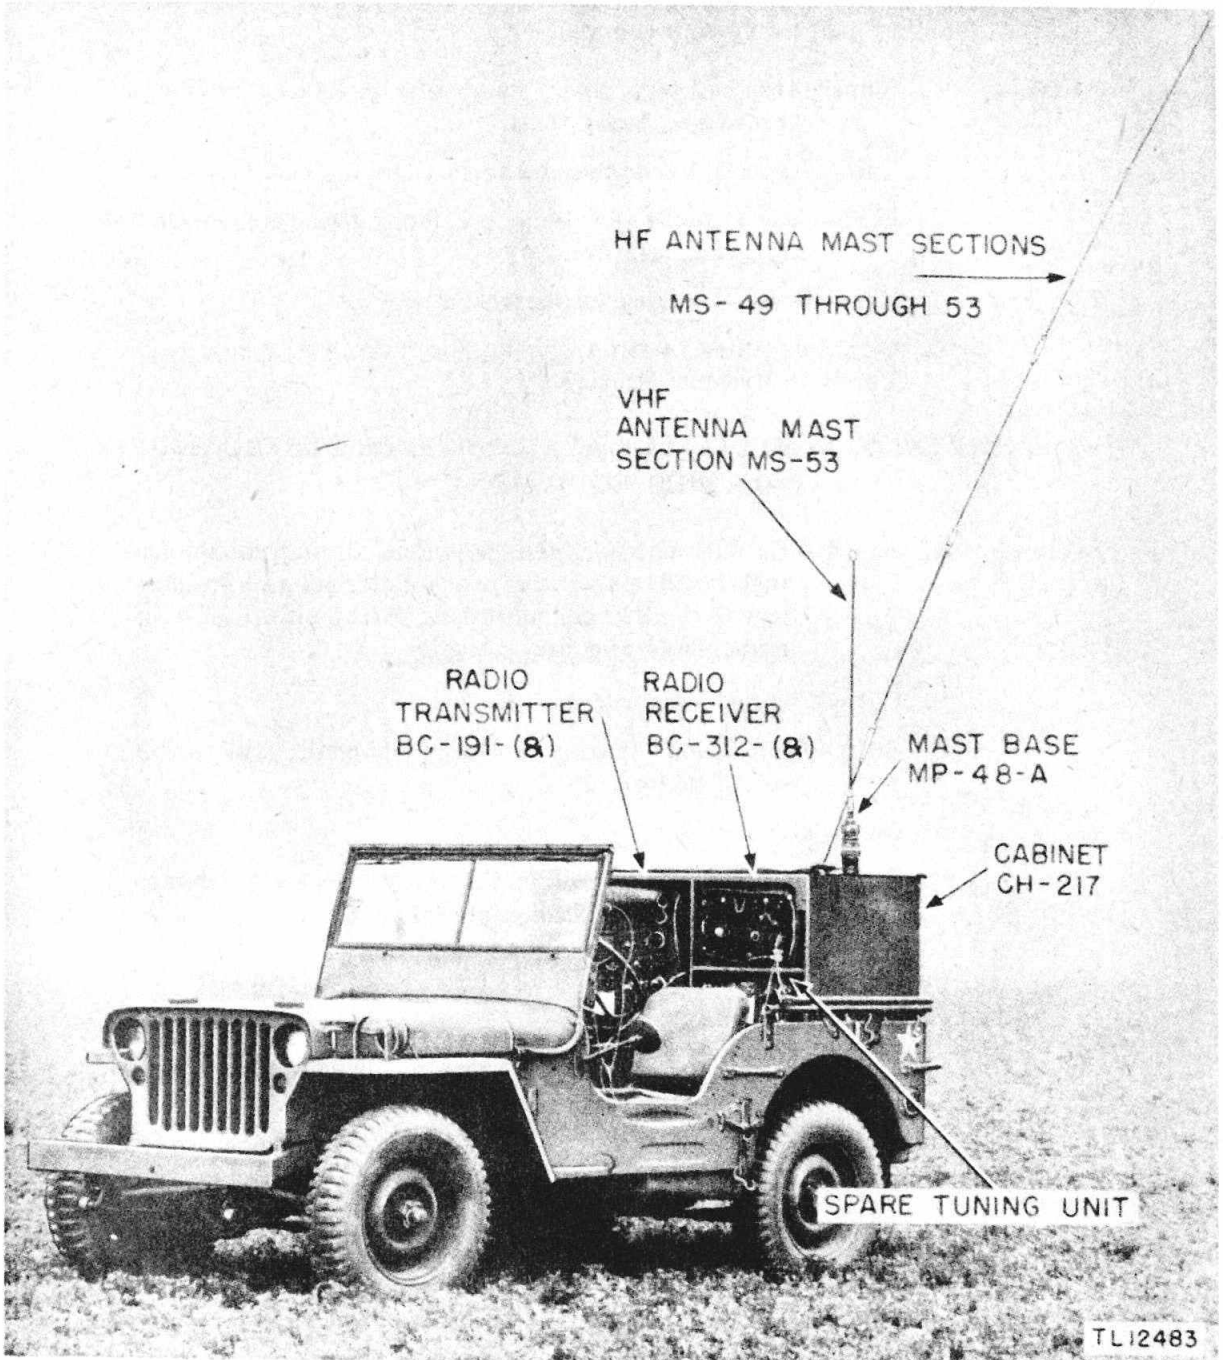

Figure 1. Radio Set AN/VRC-1 on Truck 1/4-ton 4 x 4, front view.
a. Radio Set AN/VRC-1 is a combination high-frequency and very-high-frequency radio designed for installation in, and operation from, the 12-volt model of Truck, 1/4-ton, 4x4. The high-frequency (h-f) section uses Radio Set SCR-193-(&). The very-high-frequency (v-h-f) section uses Radio Set SCR-542-(&). Both sections are mounted in Cabinet CH-217 (fig. 1). Official nomenclature followed by (&) is used to indicate any item of equipment regardless of its model or procurement. Thus Radio Set SCR-193-(&) is used to refer to all such radio sets regardless of model letter.